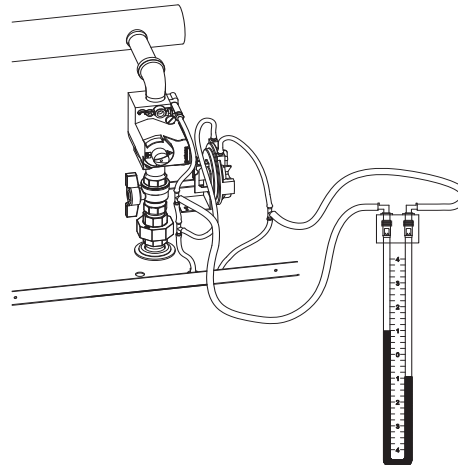

Figure 45 - Combustion Air Adjustment with a Manometer to set Differential Pressures
3. Adjust the air shutter until the differential pressure is nominally 1.2 - 1.35 inches water column for models 495,000 - 745,000 Btu/hr and 1.1 - 1.3 inches water column for models 985,000 - 1,255,000 Btu/hr. **Note:** The air chamber pressure is 1.2 inches water column for liquefied petroleum (L.P.) and 1.4 inches water column for natural. See Figure 45 on installations up to 2000 feet altitude. Contact the factory for high altitude pressure settings.
4. Adjust the air shutter until the differential pressure is nominally 1.1 - 1.3 inches water column. **Note: The air chamber pressure is 1.2 inches water column for liquefied petroleum (L.P.) and 1.4 inches water column for natural.** See Figure 45 for installations up to 2000 feet altitude. Contact the factory for high altitude settings.